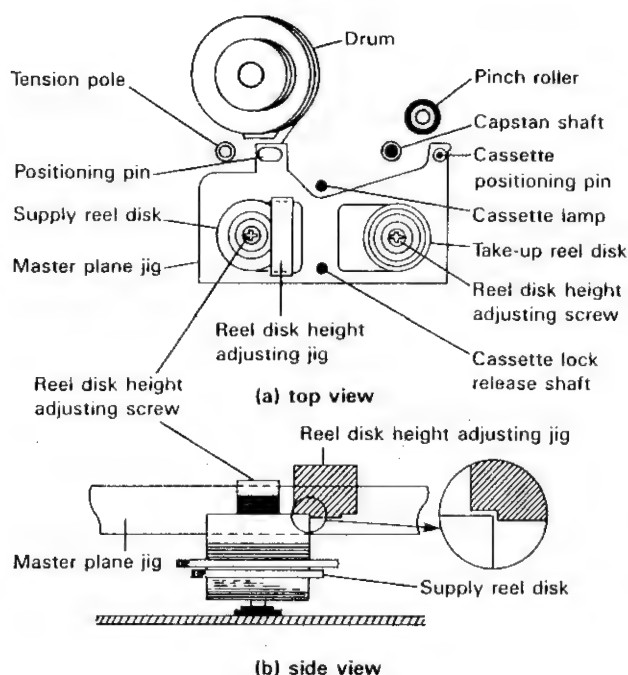

Figure 1-9.
1. Remove the cassette housing assembly, and place the master plane onto the mechanism unit as shown in Fig.1-9 (a), taking care not to hit the drum.
2. Ensure that the reel disk is lower than the part ① but higher than the part ② of Fig. 1-9 (b), by using the reel disk height adjusting jig. If the height is not correct, adjust the height adjusting screw.